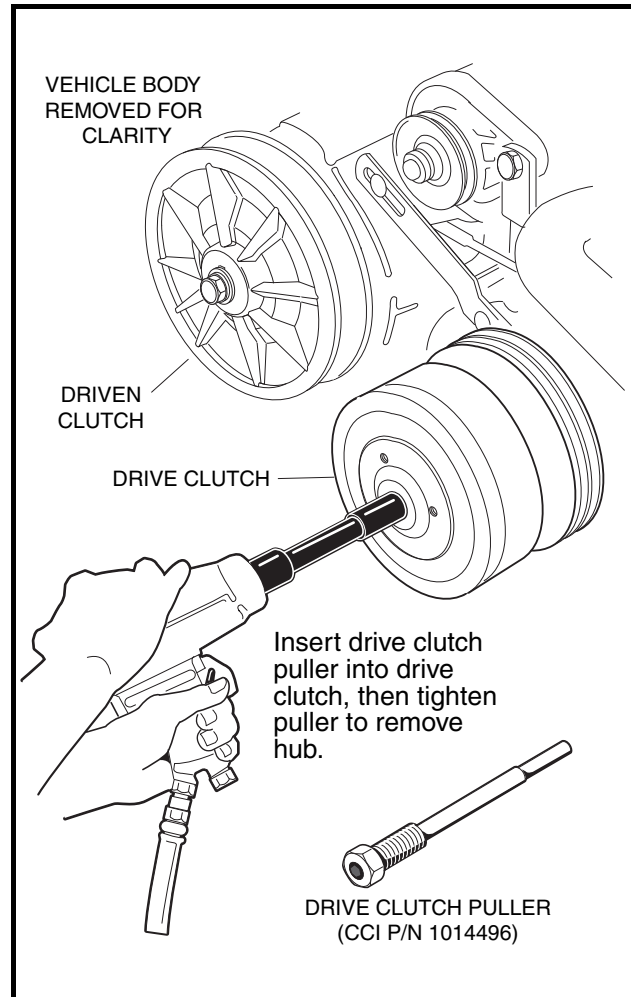

Figure 17-4 Drive Clutch Removal
7. Use a 1/2-inch drive air wrench to tighten the clutch puller tool. The drive clutch will come free of the crankshaft (**Figure 17-4, Page 17-5**).